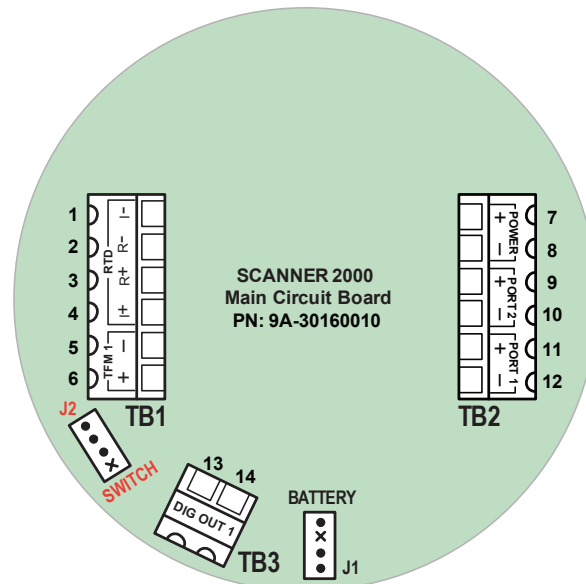

Figure A.19—J2 receptacle for installing the seal kit jumper
- b. Locate the J2 receptacle labeled “SWITCH” and insert the jumper into the header. (See Figure A.19, page A-15)